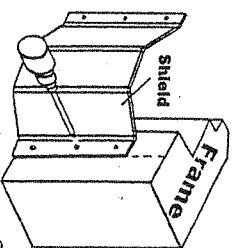
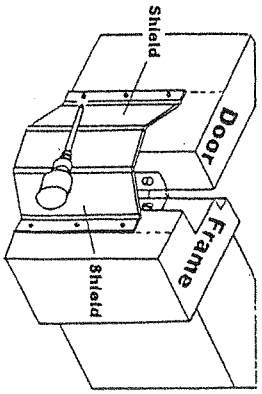

Fig 6
Fig 7
4. Secure the DigitSafe with the screws provided making sure that there is a screw in each hole (fig.6) and repeat the operation to fix the DigitSafe to the door (fig.7).